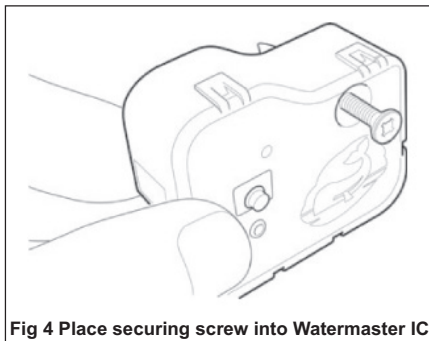

Fig 4 Place securing screw into Watermaster IC
- Step 5 - Take Watermaster IC and place countersunk screw into screw holes (see Fig 4)